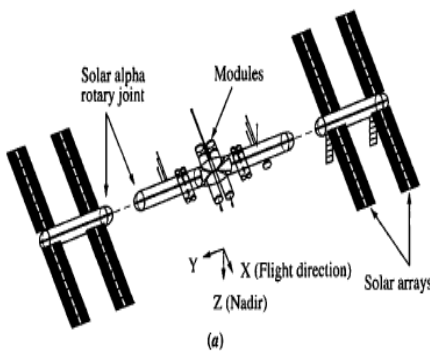
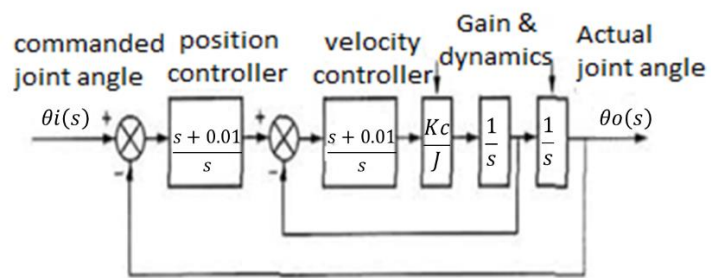

Figure 4
Figure 5
- 2B. A space station, shown in figure 4, will keep its solar arrays facing the Sun. If we assume that the simplified block diagram of figure 5 represents the solar tracking control system that will be used to rotate the array. Calculate steady-state error for step, ramp and parabolic commands